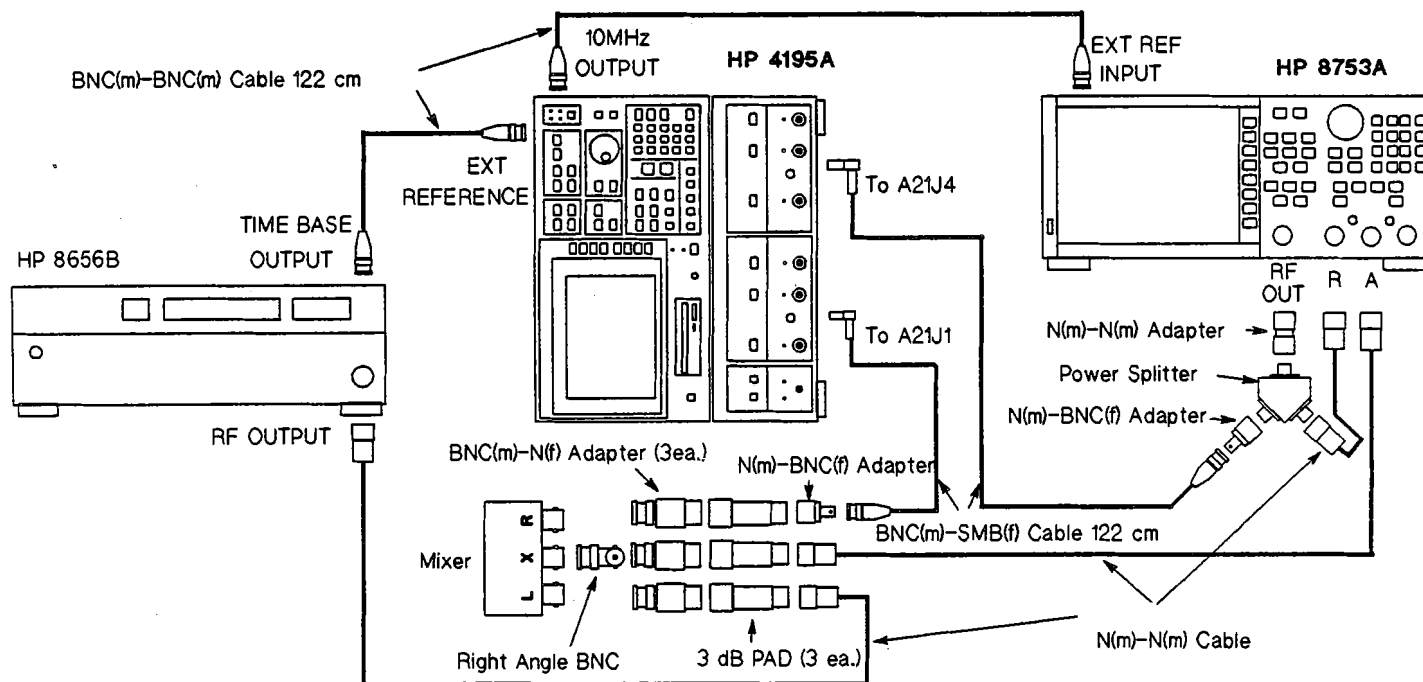
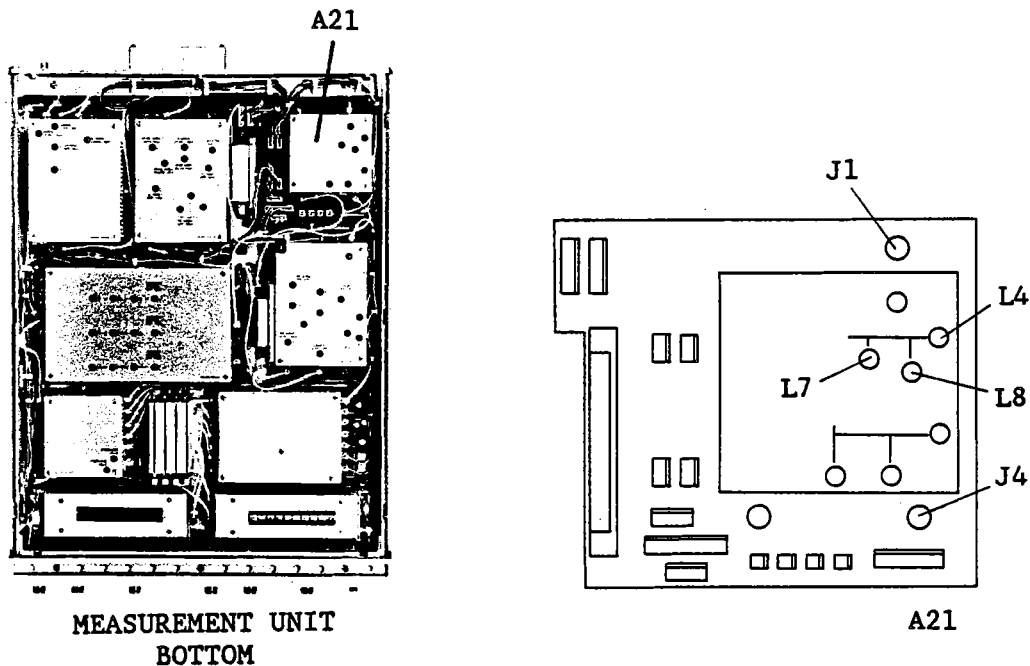

Figure 3-78. Receiver Second IF Converter 86.6 MHz BPF Adjustment Setup
Figure 3-79. Receiver Second IF Converter 86.6 MHz BPF Adjustment Locations
1. Connect the equipment as shown in Figure 3-78. See Figure 3-79 for the locations of A21J1 and A21J4.